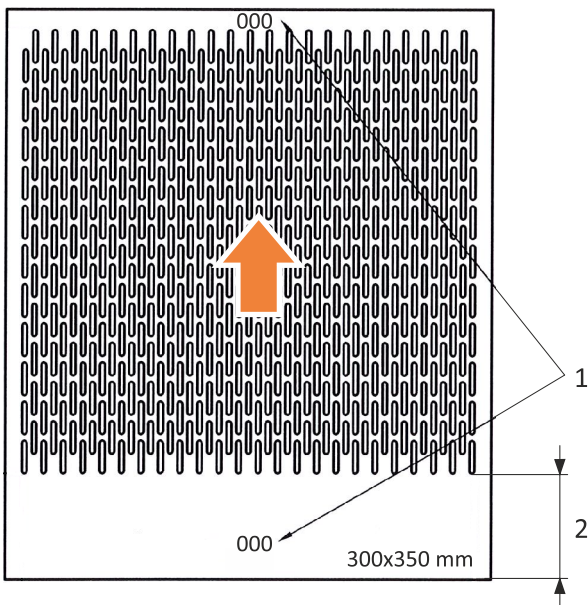

Figure 14: Straw sieve - mounting position
- ⇒ **Pay attention to the correct mounting position, refer to figure 14.**